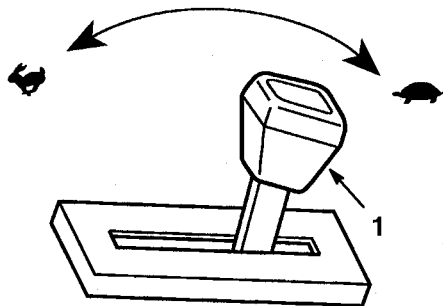

Figure 14
2. Move throttle lever to FAST position (Fig. 14).